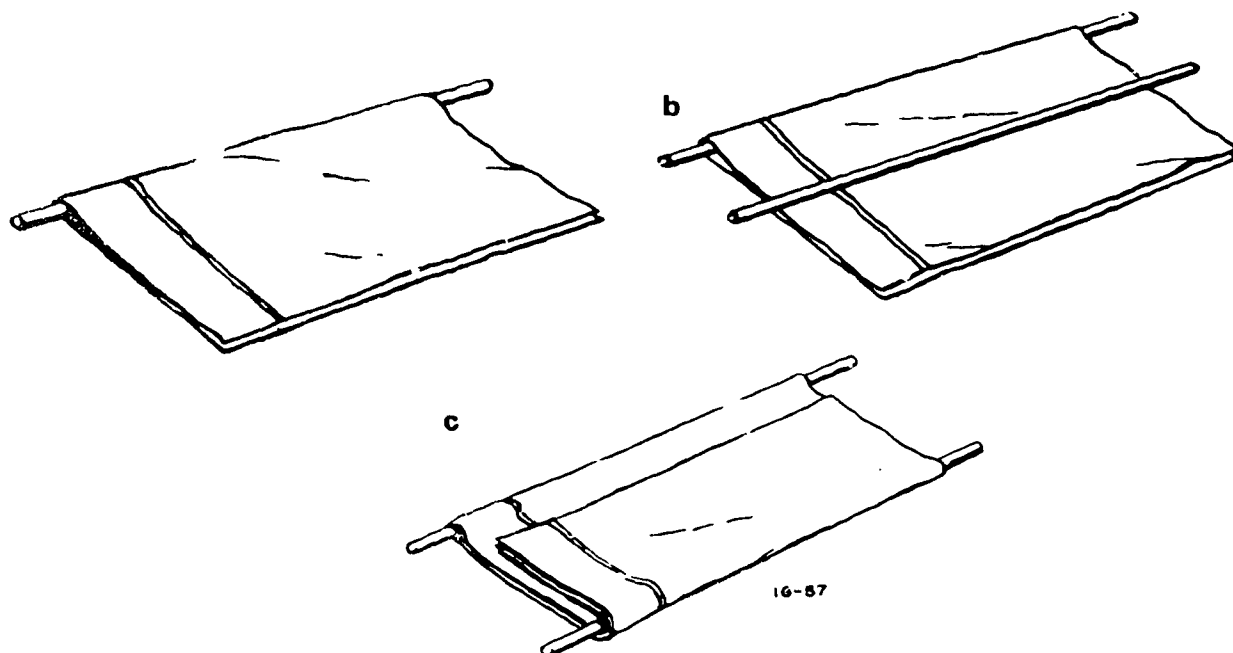

Figure 1-8. Pole and blanket litter.
*a. Pole and blanket litter.* A blanket, poncho, shelter half, tarpaulin, or other material can be used for the bed of a pole and blanket litter. The poles can be made from such objects as strong branches, tentpoles, rifles, etc. Figure 1-8 is a good example of this type of litter. It would be best not to transport back or neck fracture victims on this type of litter unless they are face down.